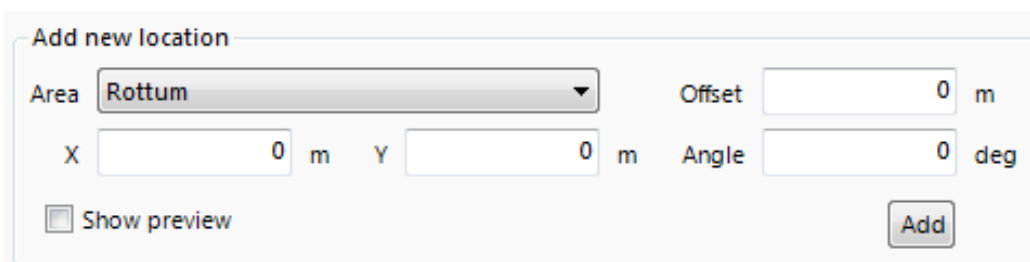

Figure 6.3: “Add new location” form in the Locations (manager) window.
- ◇ **Use the form in the window** - enter data directly in the “Add new location” form on the right side of the Locations (manager) view. You can enter the following information (see Figure 6.3):